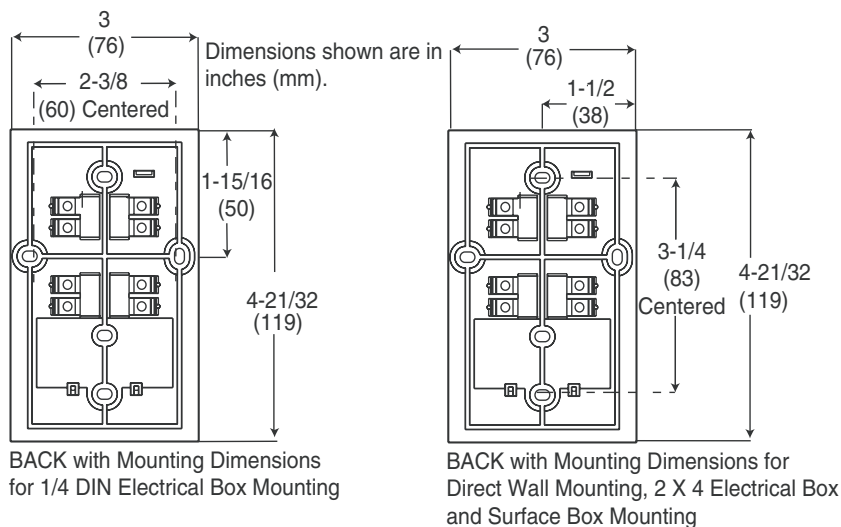

Figure-2 Mounting Dimensions.
3. Fasten the base plate onto the wall or box. Refer to Figure-2 for mounting dimensions.